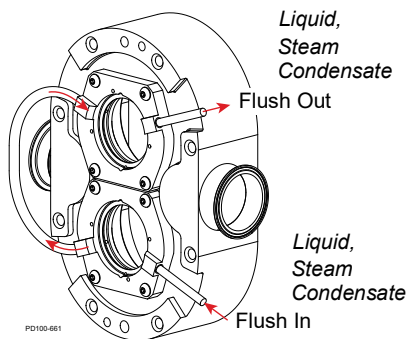
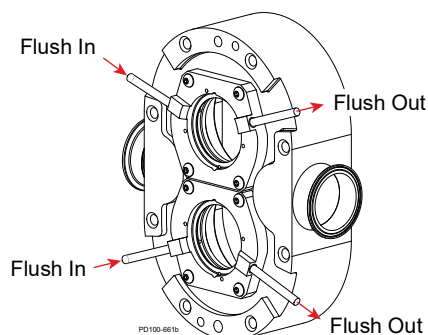

Figure 20 - Flush Piping - Liquid, Steam Condensate
Figure 22 - Flush Piping - Liquid, Steam, Steam Condensate
1. Connect the flush inlet to the lower connection, and the outlet to the upper connection, to flood the flush area completely (Figure 20).
If **steam condensate** is used as a flush media, connect the inlet at the lower connection, and the outlet at the upper connection (Figure 20). See note under Figure 22.